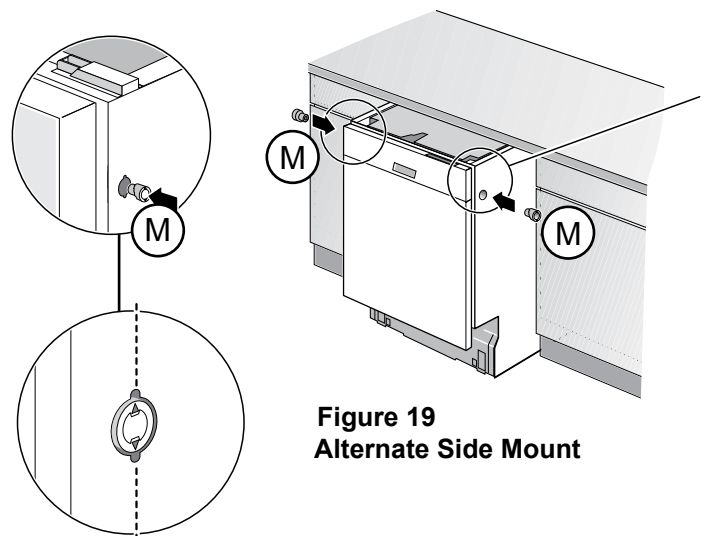

Figure 19
Alternate Side Mount for opening $23\frac{5}{8}"$ (600mm). Insert a side mount force distributor (M) in each side as shown in **Figure 19**.